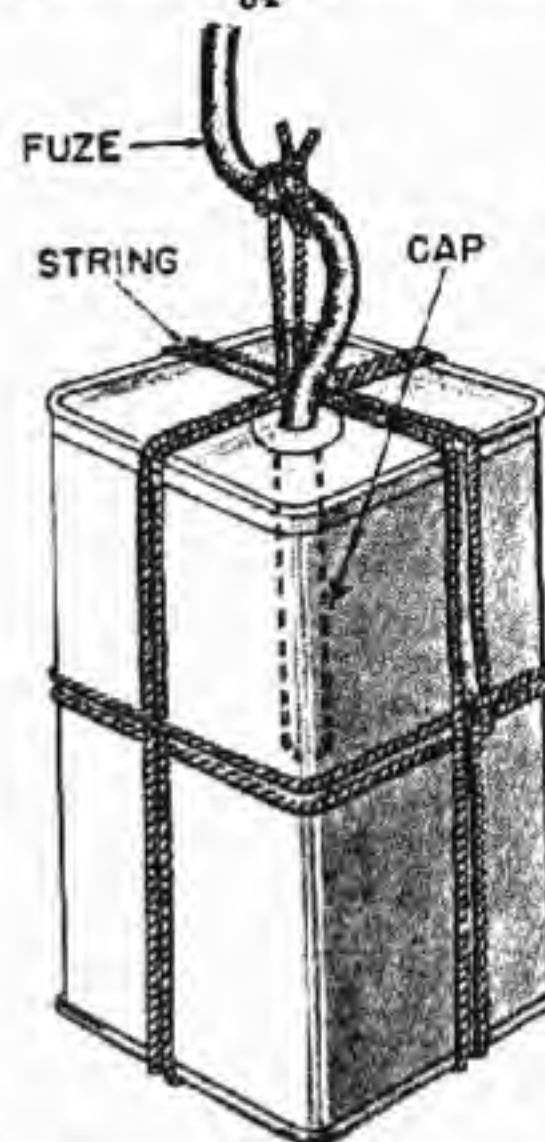

FIGURE 89.—Primer made of TNT block and nonelectric cap.
a. *Primer of TNT or dynamite, with nonelectric cap and fuze.*—Cut fuze off square with fuze cutter. See that no dirt is in the open end of the cap, then slip it over the fuze as far down as it will go. Hold the fuze in one hand and crimp cap to fuze with cap crimper, making crimp near open end of cap. Next, put cap with fuze attached into the hole in TNT block or dynamite stick (figs. 89, 90, and 91). The twine holding the cap in place must be tied so that when the fuze is pulled, the twine takes the pull and the cap is not moved in the hole.